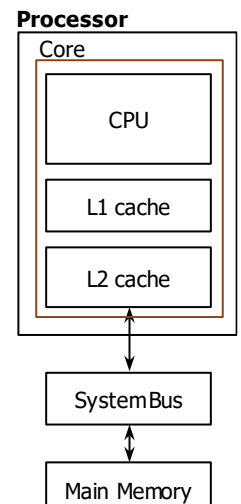

Figure 2. Processor with one core.
- Fig. 2 depicts a processor with a single core. Besides a CPU, a core may include other components like L1 and L2 caches. A basic system layout has a single-core processor; here processor ≡ core.